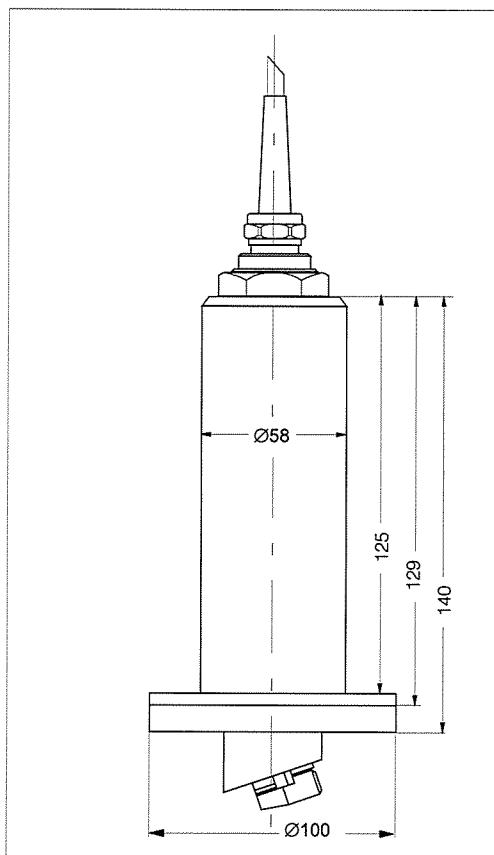

Fig. 4.9 Dimensioned drawing
- Adapter CUA 120-A for flange mounting by means of a weld-on flange, loose flange, seal and fastening screws (to be provided by customer); a wiper can be used (see figures 4.9 and 4.10).
(see figs. 4.9 and 4.10)